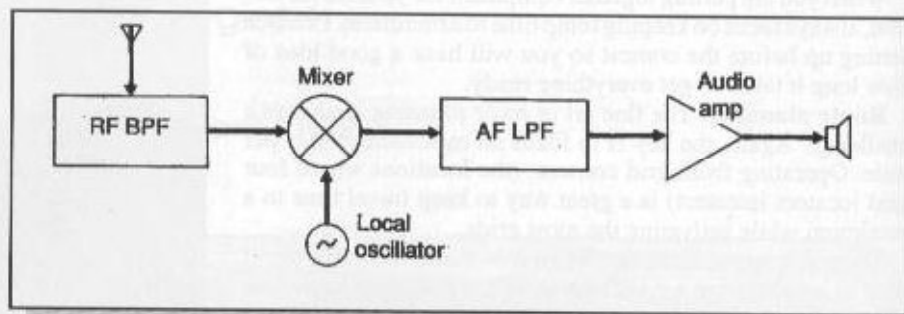
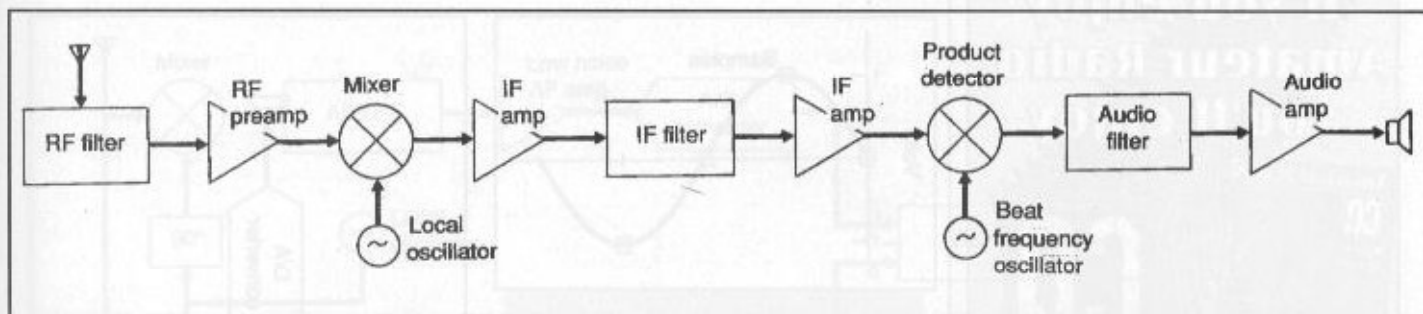
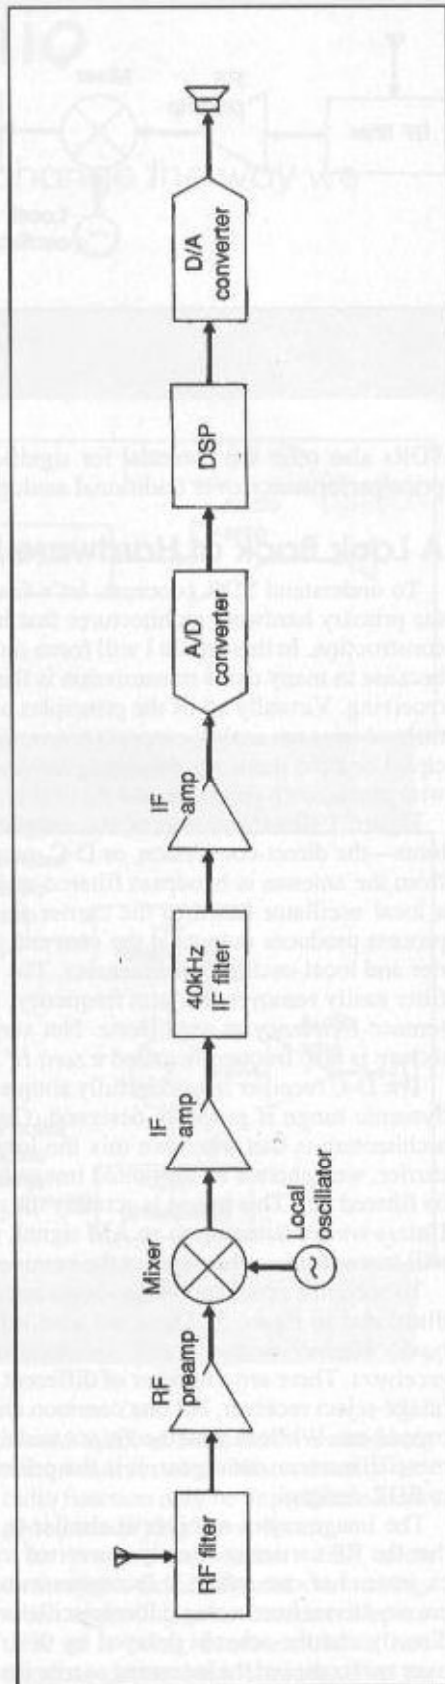
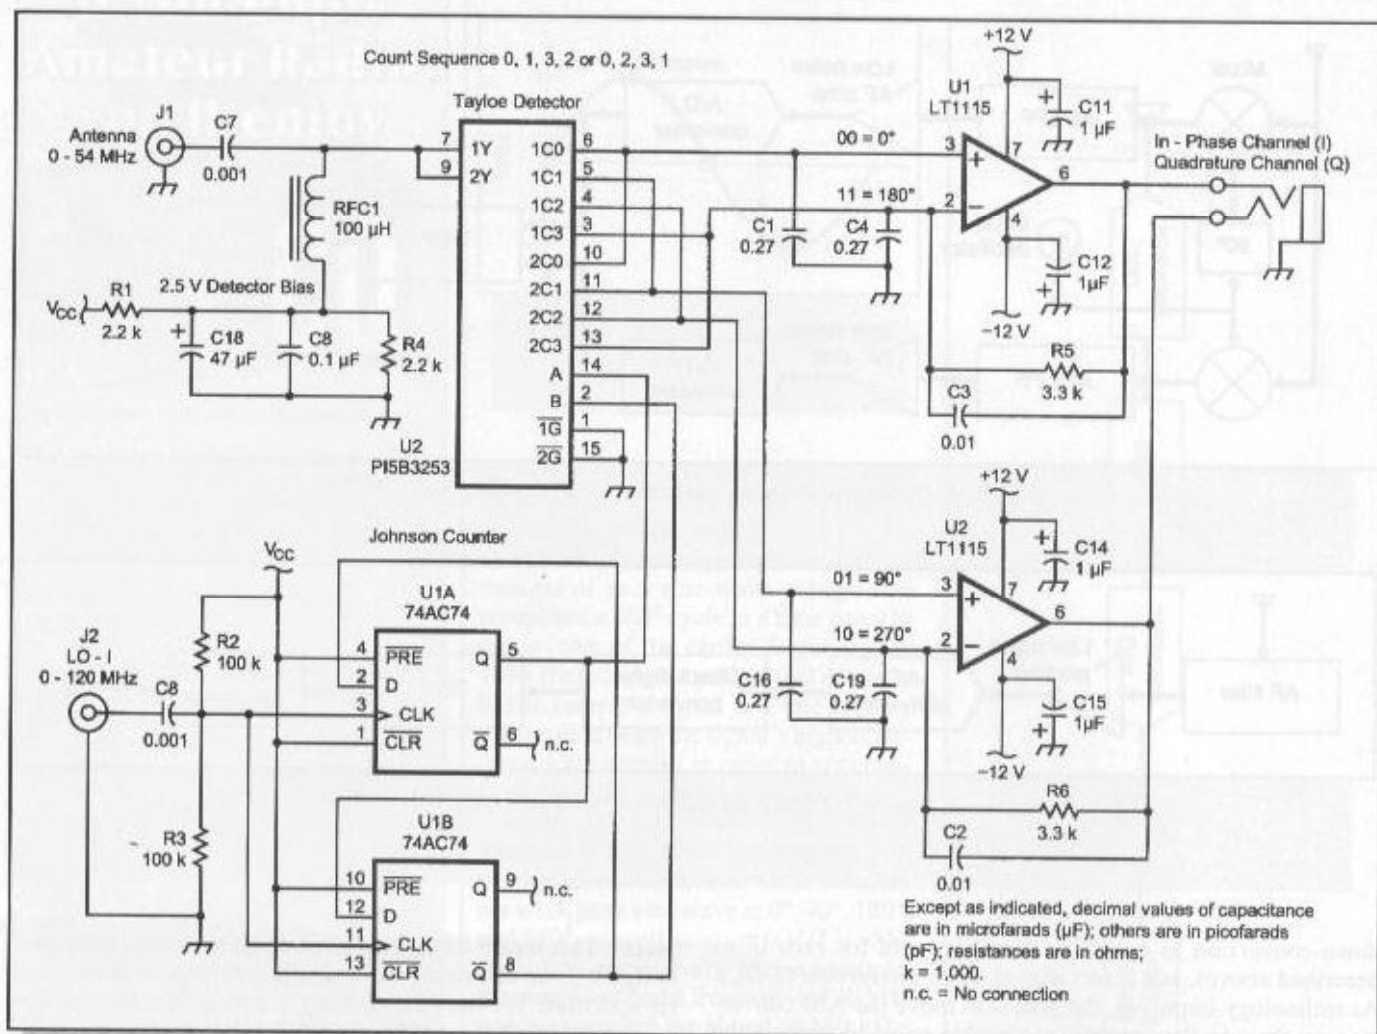

Figure 1. Simple direct-conversion receiver.
Figure 3. Superheterodyne or filter-method receiver.
Figure 5. Superheterodyne receiver with low IF sampling.
Figure 8. Taylor Detector quadrature down-conversion. (Artwork courtesy QEX)
Figure 1 illustrates one of the simplest receiver architectures—the direct-conversion, or D-C, receiver. The RF carrier from the antenna is bandpass filtered and mixed directly with a local oscillator tuned to the carrier frequency. The mixing process produces outputs at the sum and difference of the carrier and local-oscillator frequencies. The subsequent low-pass filter easily removes the sum frequency, leaving only the difference frequency at zero Hertz. Not surprisingly, this architecture is also frequently called a *zero IF receiver*.
Until the 1960s, the image-reject receiver was very popular. At that point, high-performance filters became available that allowed inexpensive construction of multiple-conversion *superheterodyne* (or *filter-method*) receivers similar to that shown in figure 3. Superheterodyne receivers have two or more mixing stages with intermediate-frequency (IF) filtering and amplification.
In figure 3 is shown a dual-conversion example where the second conversion is from the IF frequency to audio or zero Hertz (just as we saw in figure 1, except the carrier begins at the IF frequency). This stage is often called a *product detector*, because it is a multiplication process that creates "products" of the *beat-frequency oscillator* and the IF carrier frequency.
Most DSP transceivers on the market use the superheterodyne with IF sampling architecture similar to that shown in figure 5. The product detector, beat-frequency oscillator, and audio filtering shown in figure 3 are replaced by digital circuitry and software in the digital signal processor. A typical IF frequency might be 40 kHz. After A/D conversion, the signal is mathematically translated from 40 kHz to 0 Hz and filtered using high-performance, flexible digital filters. However, this is really still an analog radio with a digital back end.
For this project I chose the quadrature down-conversion and sampling architecture shown in figure 5. I used a very interesting approach called a Taylor Detector⁵ to achieve the quadrature down-conversion. Figure 8 shows the single balanced version of the Taylor Detector that I used in my first prototype.